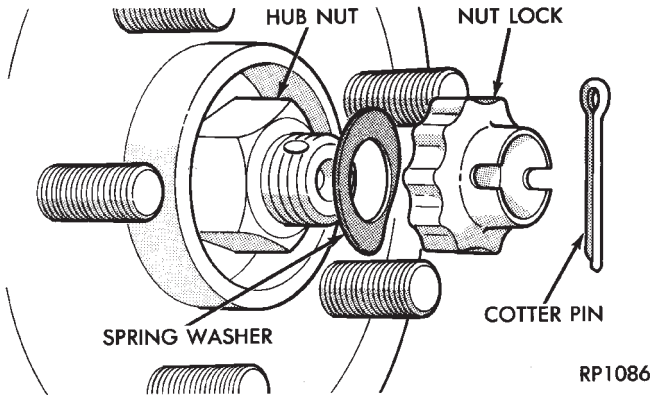

Fig. 39 Cotter Pin, Nut Lock
(1) Remove cotter pin, nut lock, and spring washer (Fig. 39) from the front stub axle.